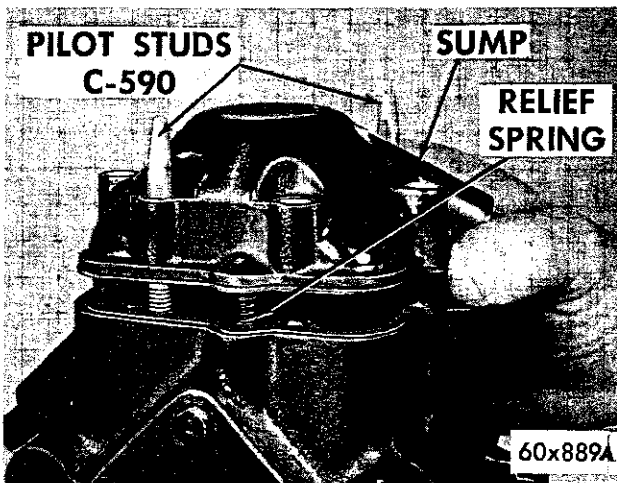

Fig. 42—Installing the Sump
(1) Remove the bearing cap and install the piston in the bore. Use piston ring compressor to prevent ring damage.
(2) Install the bearing caps, and tighten screws 52 to 56 inch-pounds torque. Be sure each cap is installed in its original position.
(3) Install the valve plates and the cylinder heads.
(4) Turn the compressor upside down. Install the pilot studs, gasket, oil pressure relief ball and spring.
(5) Install the sump over the pilot studs (Fig. 42), making sure that the oil pressure relief spring depresses uniformly as the sump is lowered on the case.
(6) Tighten the sump bolts finger tight to prevent spring misalignment, then tighten 15 to 19 foot-pounds torque.
(7) Refill with new refrigerant oil after the compressor is installed on vehicle. Do not re-use the oil that was previously drained.